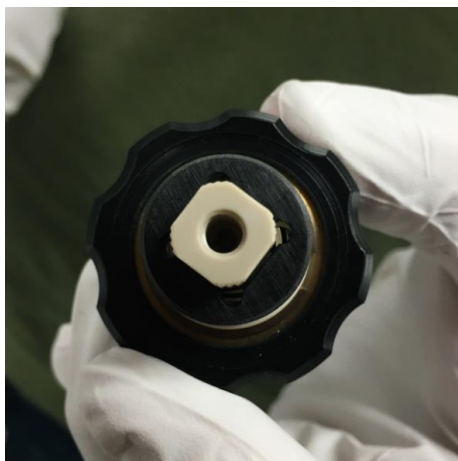

Figure 95: Correct needle adjustment
- 15) Once the length is correctly adjusted, lock the needle in place by turning the top of the probe so it lines up with the square in the spring on the spray probe. See Figure 95.